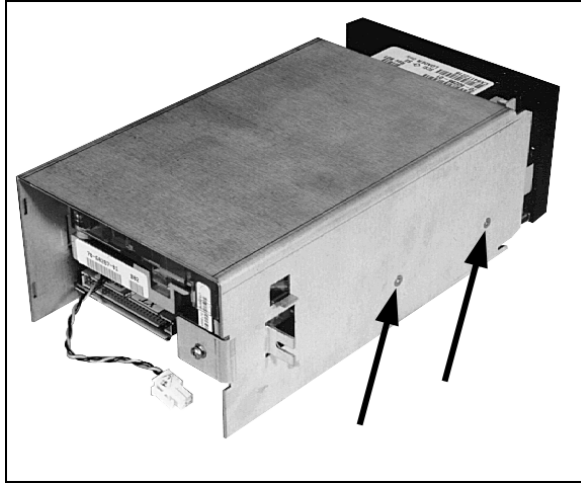

Figure 5-56. Drive Mounting Screws
3. Remove the four T-10 mounting screws on the drive enclosure (two on each side) and remove the drive. (See Figure 5-56.)